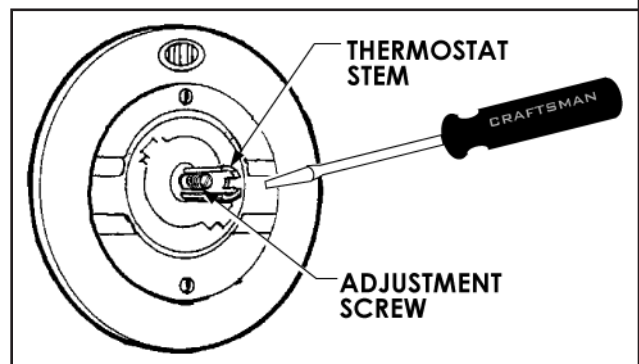

figure 1.
2. Locate the tiny adjustment screw, inside the stem (see figure 1). Using a small screwdriver, adjust the temperature up or down: